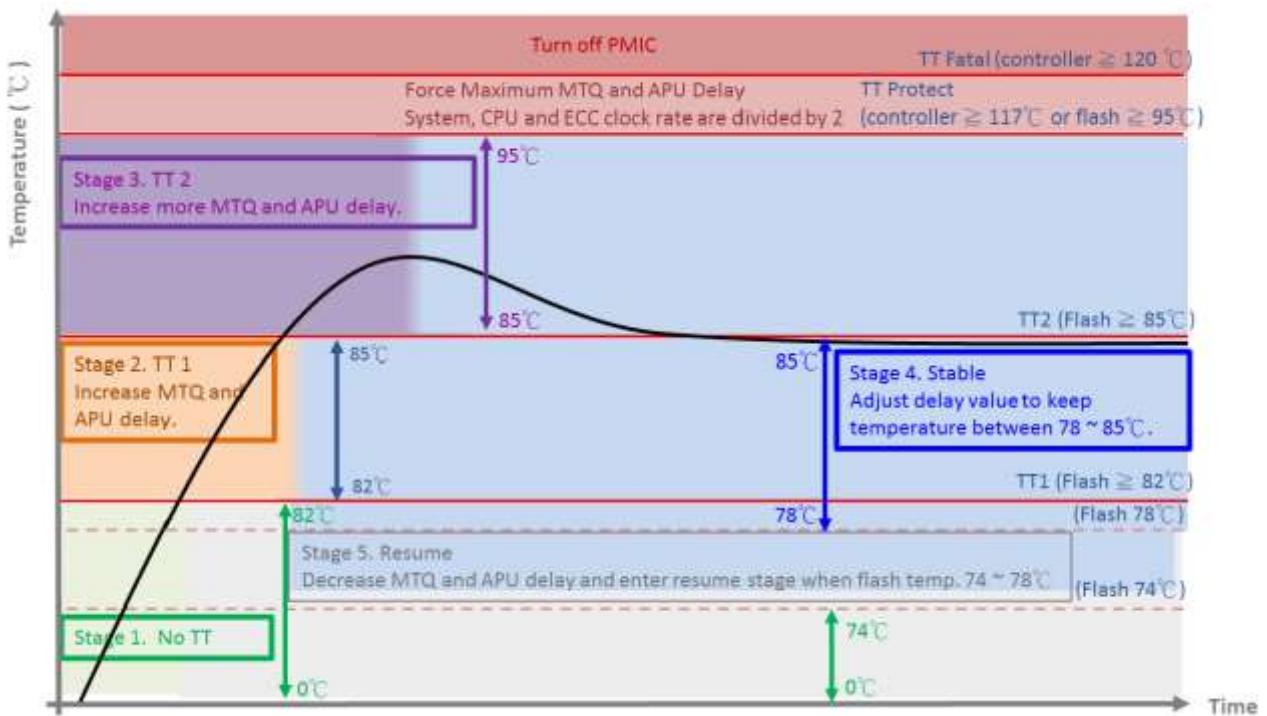

Figure 2-2 Thermal Throttling Schematic
1. TT shown on Figure 2-2 means "Thermal Throttling".